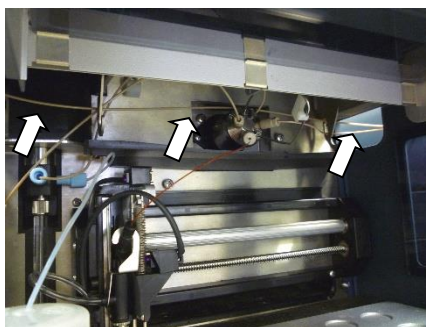

Figure 16. Picture of the autosampler with the waste tubing arranged through the valve compartment towards the waste bottle in the solvent tray.
- In case the autosampler is placed next to the pumps and the waste bottle is placed in the eluent tray, then the waste line can be guided through the autosampler (Figure 16).